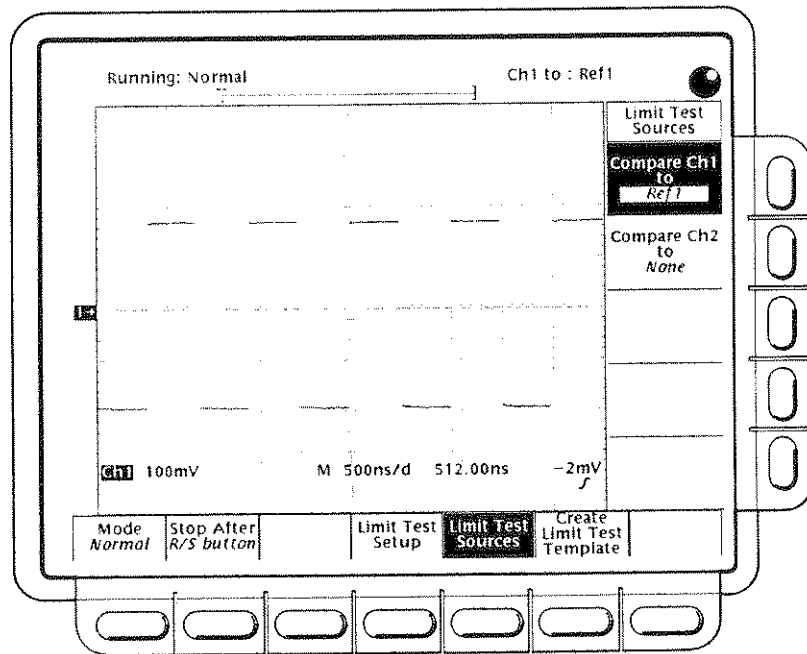

Figure 3-30: Acquire Menu—Limit Test Sources
1. Press **SHIFT ACQUIRE MENU** → **Limit Test Sources** (main) to specify which waveforms to compare to the template. (See Figure 3-30.)